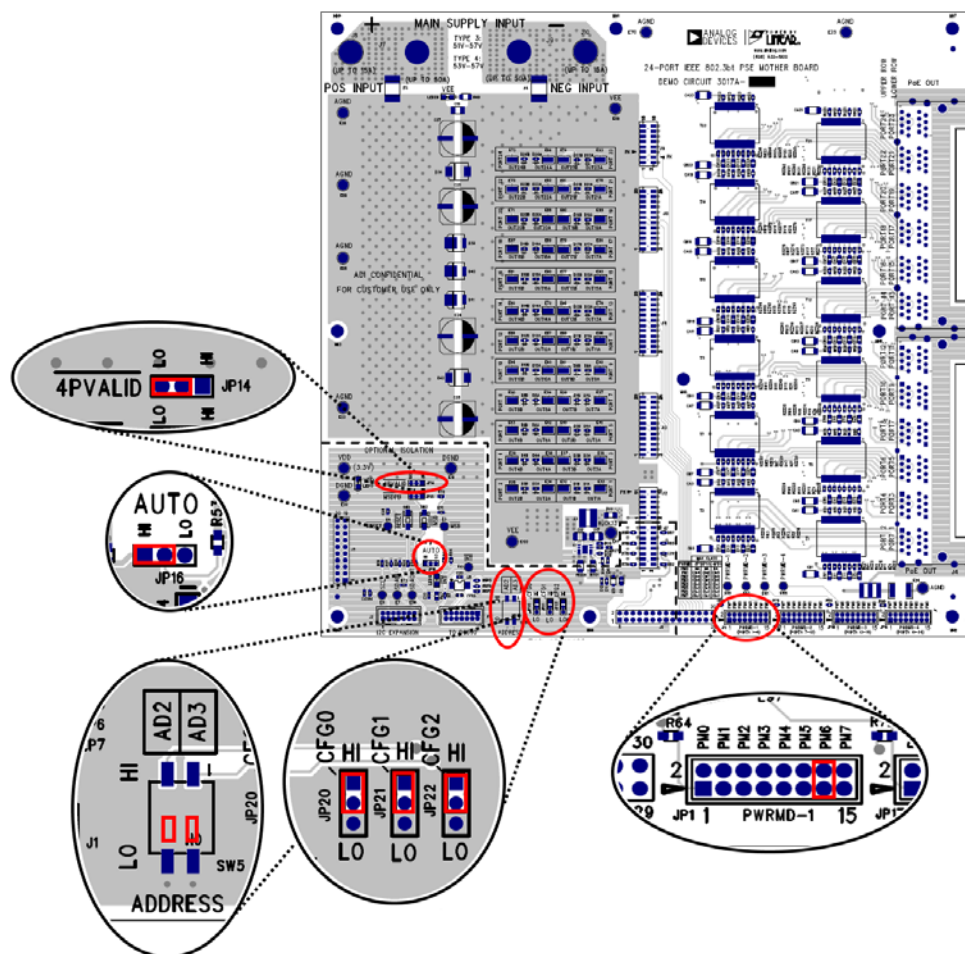
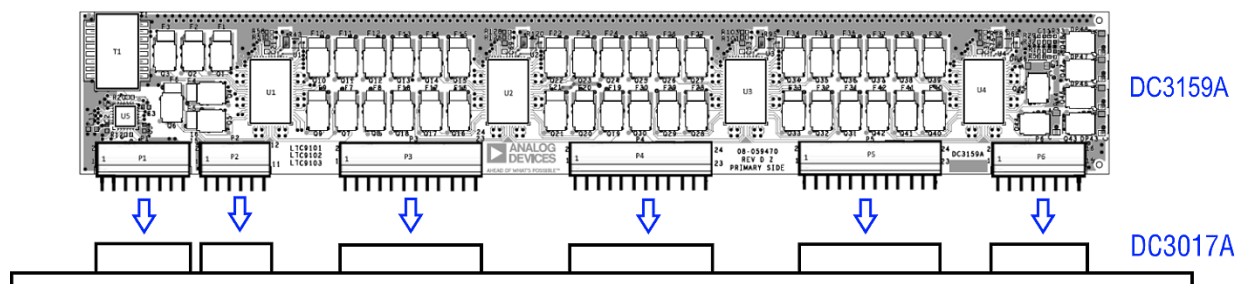
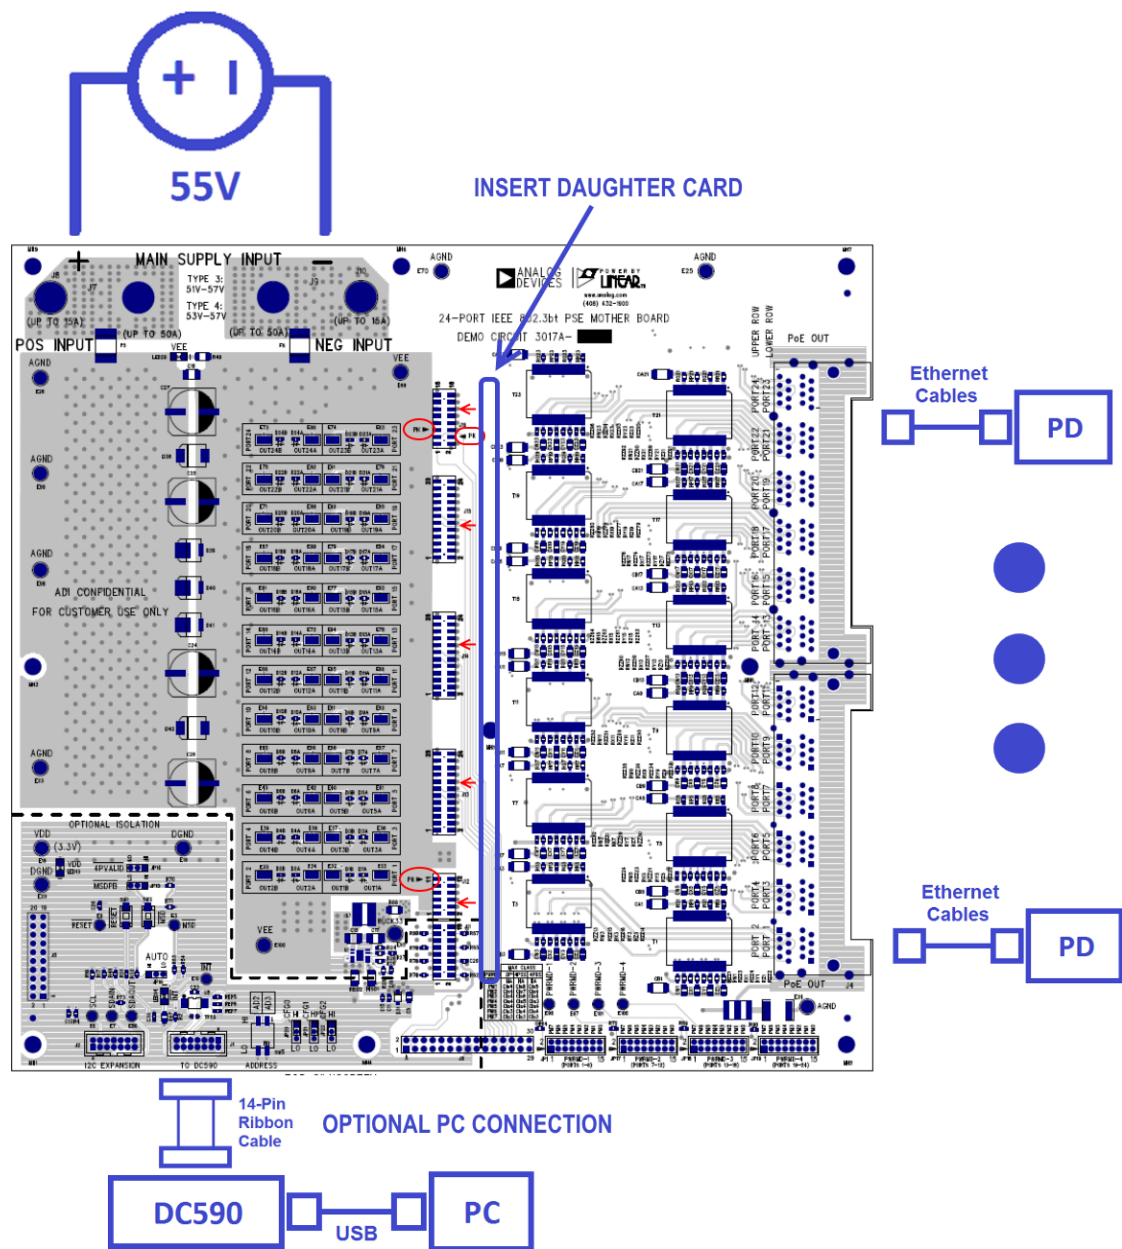

Figure 1. Default Settings for DC3017A Motherboard, Jumpers: 4PVALID, AUTO, PWRMD0, CFG0, CFG1, and CFG2; Switches: AD2 and AD3
Figure 2. Inserting the DC3159A Daughter Card into J1 through J6 of the DC3017A Motherboard
Figure 3. DC3160A-KIT Connections
Follow the procedure below and refer to Figure 1 through Figure 3, and Table 2 through Table 9 for proper equipment setup and default configuration. This default setup will automatically power all valid PDs at all power classes.
6. Align pin 1 of the 16-pin male connector P1 on the DC3159A daughter card with pin 1 of the 16-pin female connector J11 on the DC3017A motherboard as shown in Figure 2. The six male connectors and six female sockets should match. Keyed pins in J16 and J12 assist with the alignment shown in Figure 3. Carefully push the daughter card straight down until the male and female connectors are flush with each other.
7. Connect a supply to the DC3017A motherboard with the positive rail to POS INPUT (+) and negative rail to NEG INPUT (–) as shown in Figure 3. Use a power supply capable of sourcing the maximum sourced power for all ports to be tested. Ramp the supply up to within the recommended voltage range specified in Table 2.
8. Connect up to twenty-four IEEE 802.3af, 802.3at, or 802.3bt PDs to the motherboard's RJ45 connectors J3 and J4, as shown in Figure 3.
When inserting or removing the daughter card into the DC3017A motherboard, verify all supplies and LEDs are off. Push the card straight down for insertion or pull straight up for removal to avoid bending the connector pins. Follow the instructions in the Quick Start Procedure for alignment and refer to Figure 2.